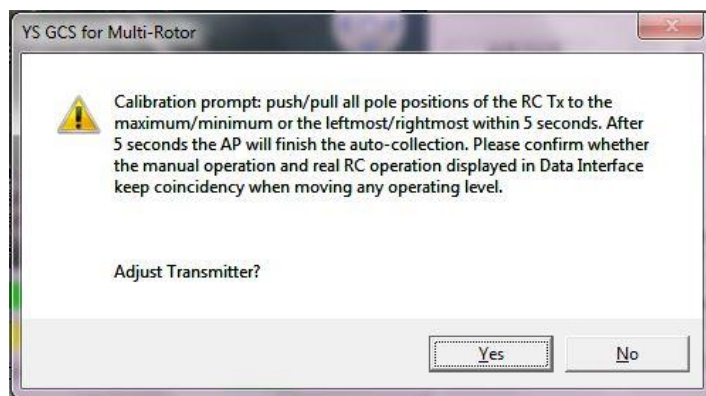

Figure 28
- a) Click “Setting(S)”→“Transmitter (T)”→“Adjust Transmitter (C)”, the calibration prompt dialogue will open, as shown in Figure 28